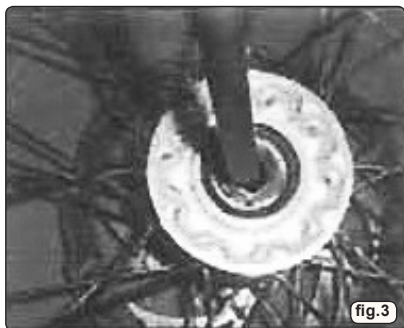

fig.3
3.3. Insert Drift into Collet (fig.3)